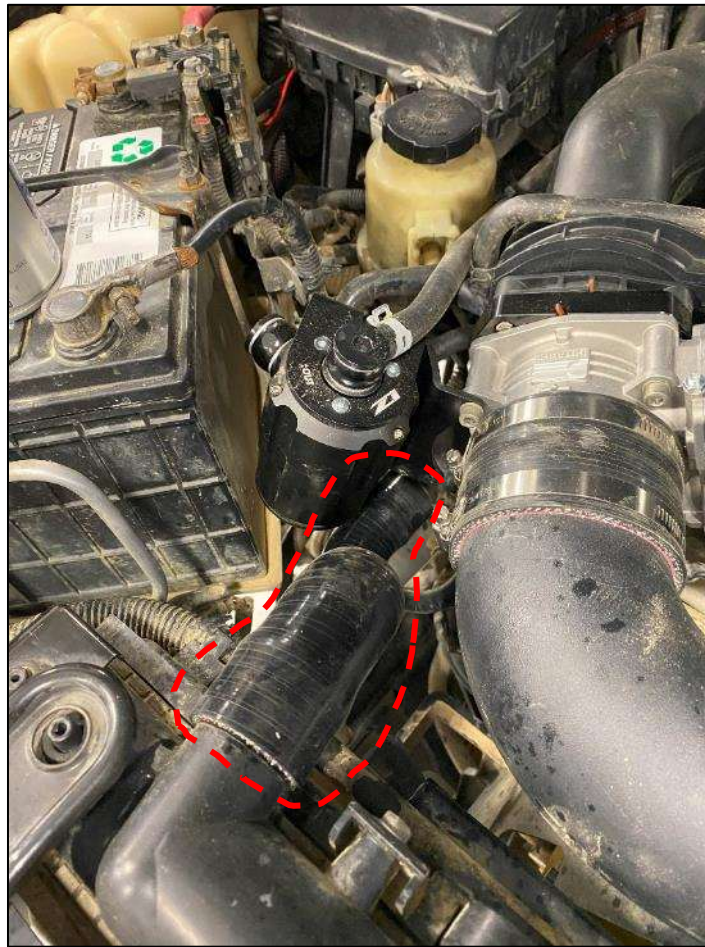

Figure 20
33. Locate and install the new Radiator Hose. Reuse the OE Hose Clamps to secure it. *Figure 20.*